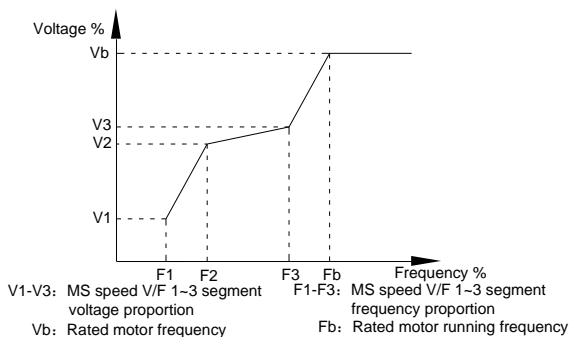

Fig. 5-4 Multi-point V/F curve setup schematic diagram
1) It must be set as follows:  $V1 < V2 < V3$ ,  $F1 < F2 < F3$ . Fig.5.4 is schematic diagram for multi-point V/F curve.